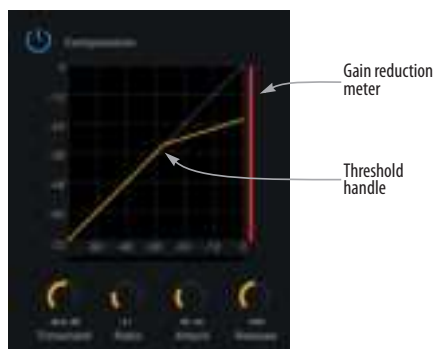

Figure 6-2: The Compressor.
All analog input channels (items 1 and 2 on page 37) provide a *Compressor* (Figure 6-2).
The *Compressor* lowers the level of the input when amplitude of the signal is above the Threshold. The amount of attenuation is determined by the *Ratio* and the input level. For example, if the input is 6 dB above the *Threshold* and the Ratio is 3:1, the compressor will attenuate the signal to 2 dB above the Threshold. When the input level goes above the threshold, the attenuation is added gradually to reduce distortion. The rate at which the attenuation is added is determined by the *Attack* parameter. Likewise, when the input level falls below the Threshold, the attenuation is removed gradually. The rate at which the attenuation is removed is determined by the *Release* parameter. Long Release times may cause the audio to drop out briefly when a soft passage follows a loud passage. Short Release times may cause the attenuation to “pump”, a term used to describe the sound of the compressor when the average input level quickly fluctuates above and below the Threshold. These issues can be addressed by adjusting the parameters. The *Gain reduction meter* (Figure 6-2) displays the attenuation applied by the compressor.